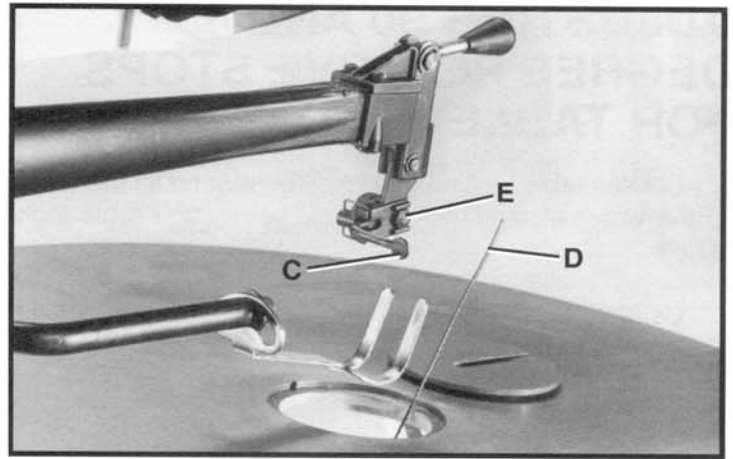
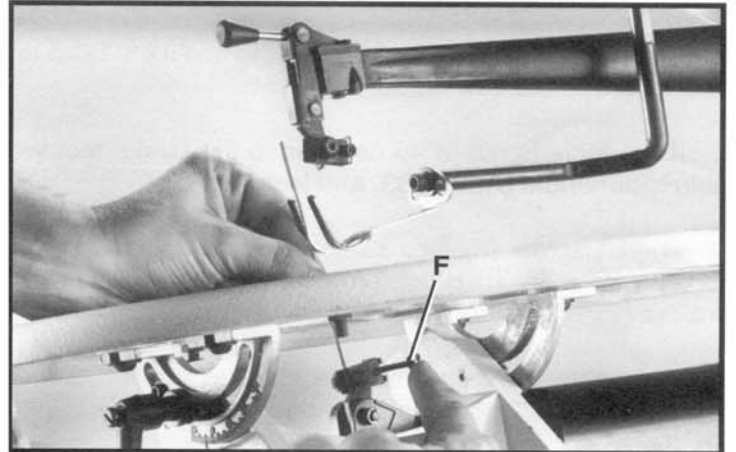

Fig. 26
Fig. 28
3. Push blade holder locking lever (C) Fig. 26, to the rear as shown. This will automatically release the blade (D) from the upper blade holder (E).
6. Insert new blade into the lower and upper blade holders in the same manner, making certain the blade teeth are pointing down toward the table, and secure blade in place by pulling blade holder locking levers (C) Fig. 26, and (F) Fig. 28, forward as shown.